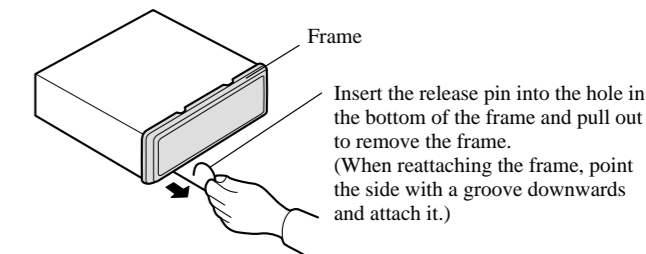

Fig. 9
**1. Remove the frame. (Fig. 9)**